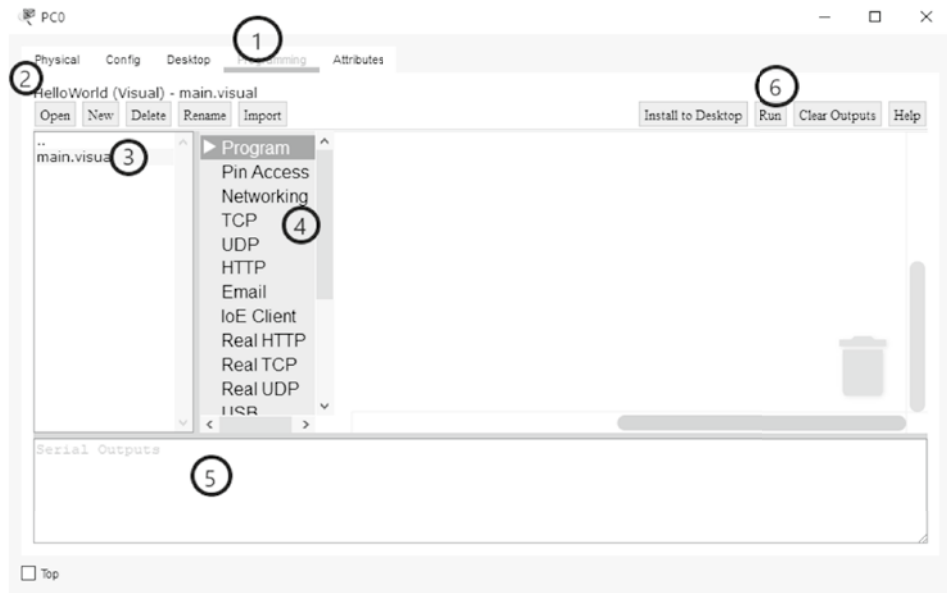

Figure 10.6 Cisco Packet Tracer programming interface.
Blockly editor consists of workspace and toolbox, which consists of many blocks (including functions, arithmetic operations, variables, networking blocks, etc.) in different colors and shapes. Users can drag blocks and generate code easily by rearranging different blocks. Figure 10.6 indicates programming interface step by step: start by selecting ① tab. After giving the project a name as discussed earlier, you can see the project name in ② along with its programming language (Visual in our case). To start programming, double-click the main file ③; another tab ④ appears showing multiple options. We can select any of the tools from here ④ to drag into workspace and later Run the Program ⑤. The output will then show in ⑥ and the execution result will be displayed on the main workspace. Packet Tracer comprises of many blocks for implementing code in a much easier way. To quickly overview all blocks, try different options from panel ④.
Now you need to execute the program. For this, click on the **Run** button as shown in Figure 10.6 at ©. The program will start executing without errors and can be seen under output window © see Figure 10.13.
To stop executing the program, click the Stop button © shown in Figure 10.6.
On the left side of the panel, you will see your project name and main.visual. Double-click main.visual and the block panel will appear as shown in Figure 10.6, where the interface is explained in detail.